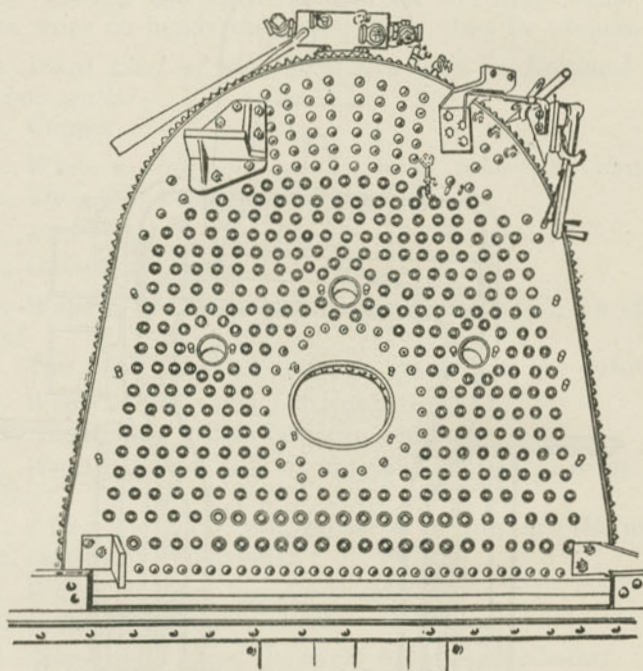
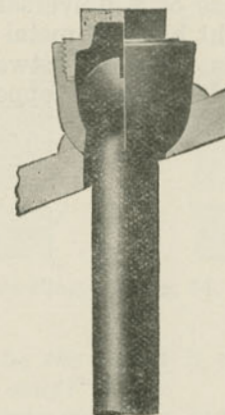

Fig. 51. Flannery Bolts, Back Head, Santa Fé Type Boilers,
Fig. 52. Flannery Stay-Bolt.
A. There are many forms. One, shown in Fig. 51, as applied to the back head, and singly, in Fig. 52, has one end threaded, the other with a ball head slotted for a screw driver, and over which a two-piece head (sleeve and cap) forming the case of a universal joint, is screwed by a spanner. A light band of metal deposited by electric-arc welding seals the joint between the sleeve and the sheet; and each sleeve has a copper gasket.